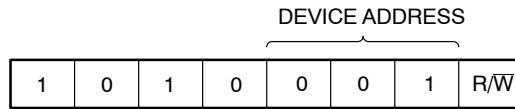

Figure 4. Slave Address Bits
The Master initiates data transfer by creating a START condition on the bus. The Master then broadcasts an 8-bit serial Slave address. The first 4 bits of the Slave address are set to 1010, for normal Read/Write operations (Figure 4). The next 3 bits are set to 001. The last bit, R/\overline{W} , specifies whether a Read (1) or Write (0) operation is to be performed.